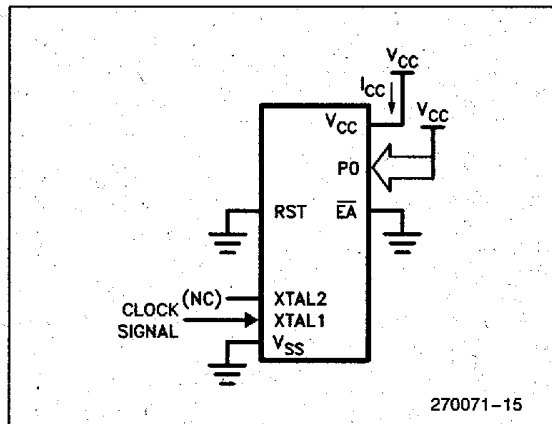

Figure 6.  $I_{CC}$  Test Condition, Idle Mode. All other pins are disconnected.
4. Idle  $I_{CC}$  is measured with all output pins disconnected; XTAL1 driven with TCLCH, TCHCL = 5 ns,  $V_{IL} = V_{SS} + 0.5V$ ,  $V_{IH} = V_{CC} - 0.5V$ ; XTAL2 N.C.; Port 0 =  $V_{CC}$ ;  $\overline{EA} = RST = V_{SS}$  (see Figure 6).